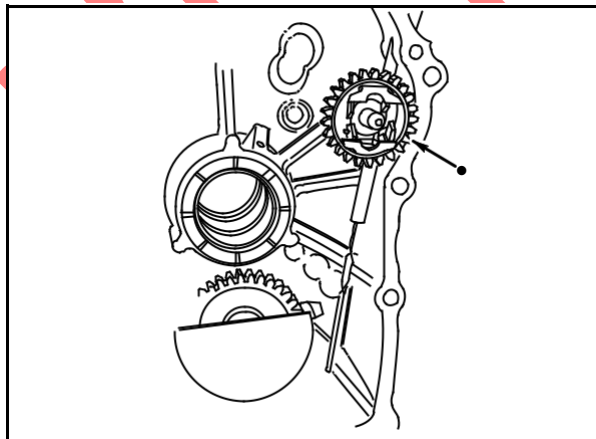

Fig. 14
The governor gear (1) is located on the inside of the crankcase cover, Fig. 14.